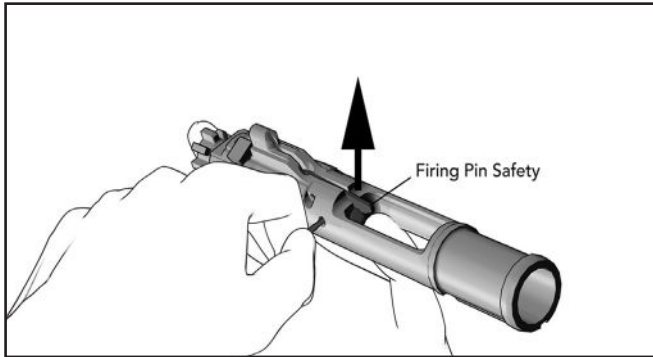

Fig. 41 – Drift out the Firing Pin Retaining Pin and lift up on the Drop Safety
- b. Insert the small tip of the disassembly tool into the right hand side of the firing pin retaining pin and drift the firing pin retaining pin from right to left until the firing pin retaining pin reaches its limit of lateral travel (Fig. 41).
- d. Lift up on the spring-loaded drop safety (firing pin safety) and remove the firing pin and firing pin spring (Fig. 41 and Fig. 42).